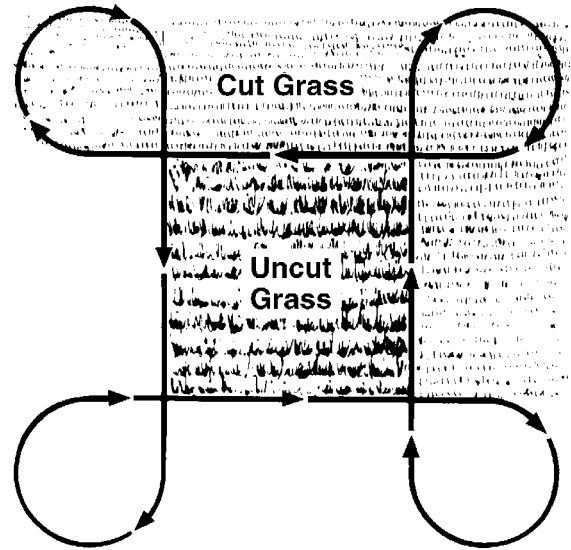

Figure 72
- Follow the mowing pattern shown in Figure 72.